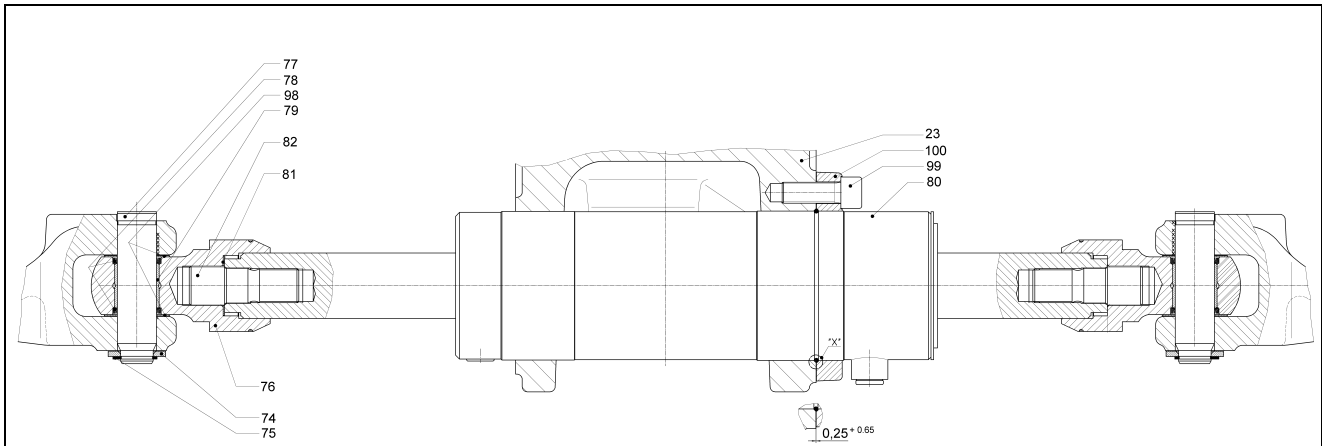

fig.15
- ***Important:*** Between flange (No.100) and diff. housing (No.23) must be gab about min. 0.20 mm till max. 0.9 mm measurable with a feeler gauge. (see fig 15)